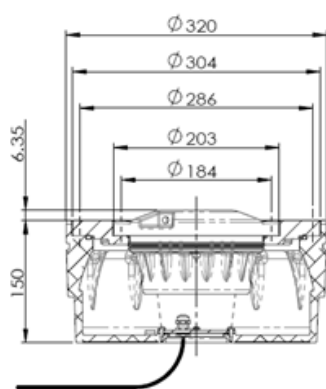

Figure 3-2
- Mounted on the 12 inches shallow base with the 12/8 inches adapter ring (Figure 3-2).